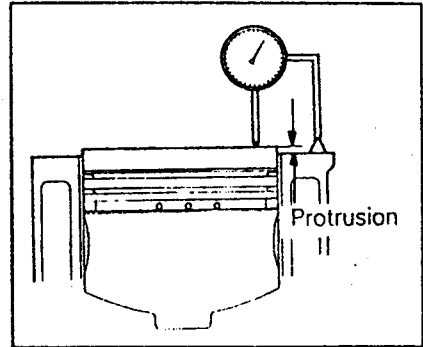

Fig. 15.17. — The stylus of the dial gauge must be placed against the edge of the piston. The other side of the piston must be measured in the same manner.
- Turn each piston to the top dead centre position and place a dial gauge (set to "Zero") on the cylinder block face, so that the stylus is resting on the edge of the piston, as shown in Fig. 15.17, and write down the indicated value.